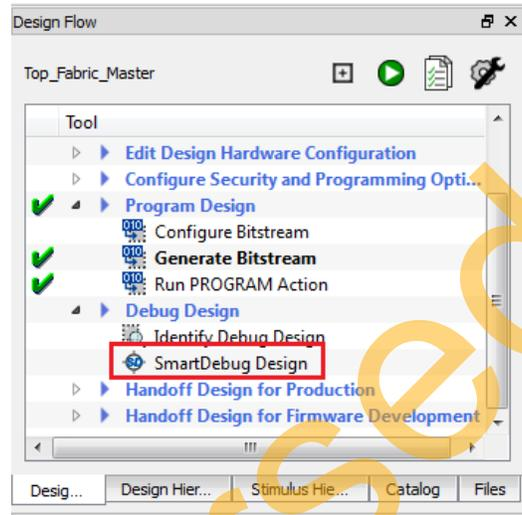
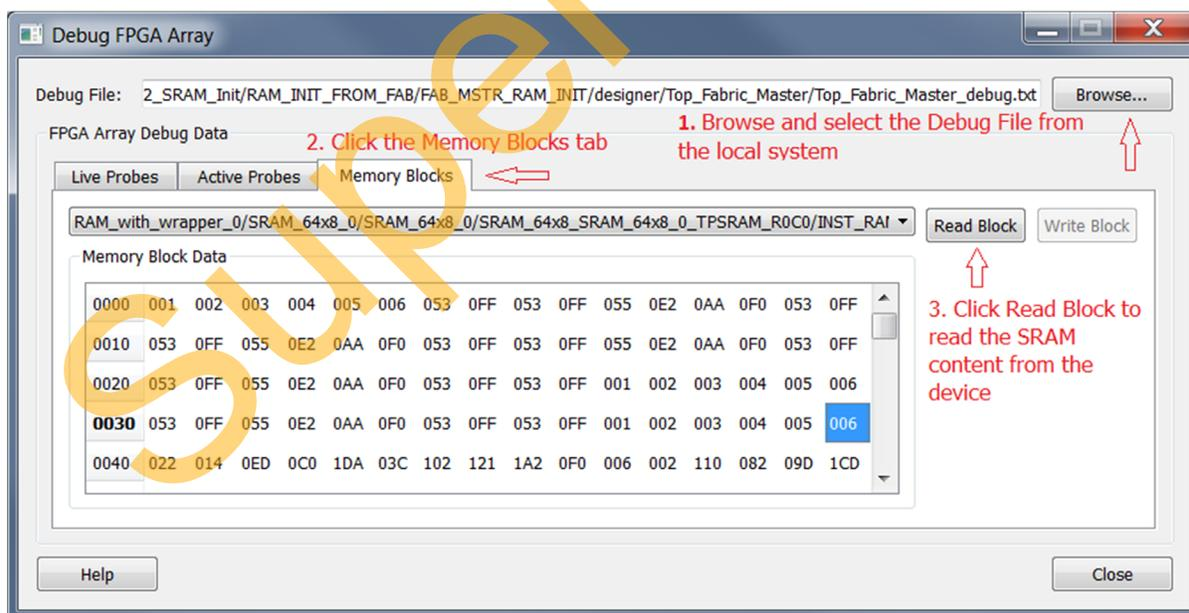

Figure 22 • SmartDebug Window Debug Options
Figure 24 • SRAM Content Read from the Device
2. Launch **SmartDebug** by selecting the **SmartDebug Design** option from the **Design Flow** window as shown in Figure 22. The **SmartDebug** window is displayed.
- Click **Debug FPGA Array** as shown in Figure 22 to open the **Debug FGPA Array** window as shown in Figure 24.
- Browse to select the `Top_Fabric_Master_debug.txt` file. The Debug File must be specified before starting the FPGA Array Debug as shown in Figure 24. For example, the *Debug File* = `<project root>/designer/Top/Top_Fabric_Master_debug.txt`
c. Click **Read Block** to read the SRAM content in real-time from the device. The content of the SRAM is displayed as shown in Figure 24. The SRAM data that is stored into eNVM which is used to initialize the SRAM block.